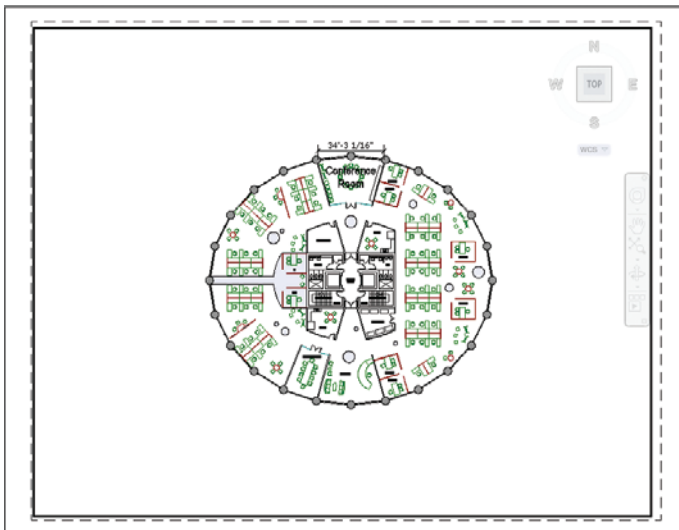

FIGURE 13.16 Finding the largest scale that will fit on the page
- Zoom in and select the single dimension object, and move its dimension line upward for clarity. Note, however, that by zooming, you have changed the viewport scale. Again select $1/32" = 1'-0"$ (or 1:300 in metric) from the Viewport Scale menu button on the status bar, and pan the drawing to the center of the page (see Figure 13.16).